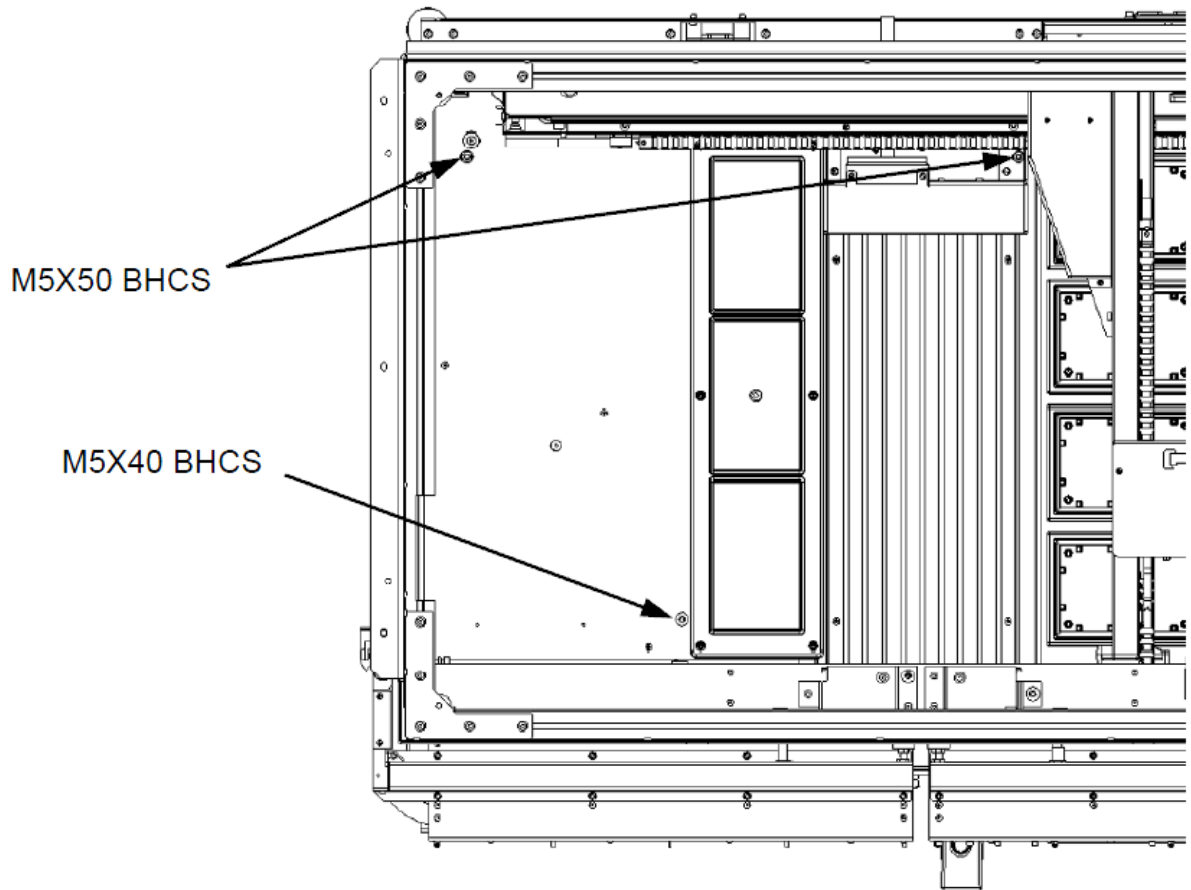

Figure K-2: Removing Screws that Attach the Lower Fluidics Assembly to the Base
2. Remove the two M5x50 BCHS and the M5x40 BCHS that attach the assembly to the base as shown in Figure K-2.